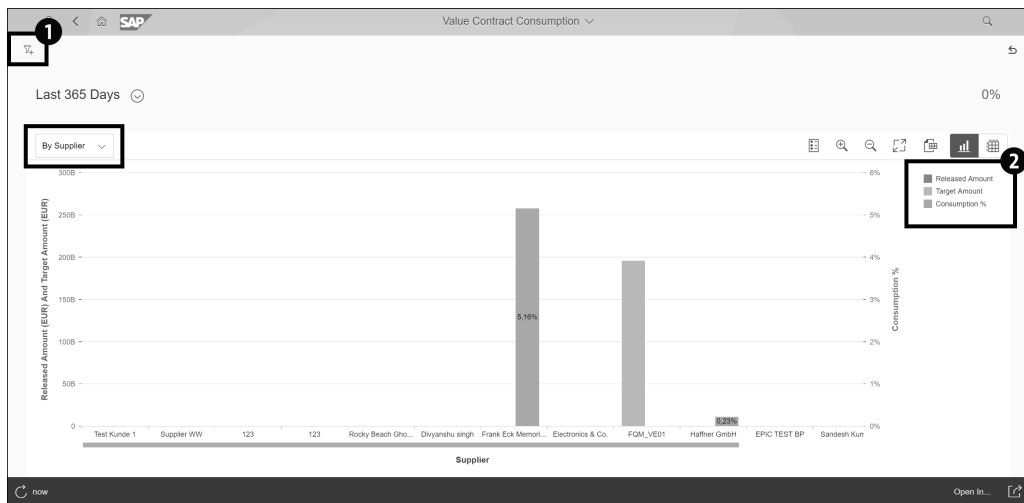

Figure 8.11 Value Contract Consumption
Login to the SAP Fiori launchpad and navigate to the Value Contract Consumption SAP Fiori app, then click the tile to execute the app. This SAP Fiori app analyses the value contracts in the system and displays target and released amounts and the consumption percentage over the last 365 days. It's possible to display the KPIs by supplier, purchasing group, purchasing organization, document, and trend, as shown in Figure 8.11. The output can be filtered by **Purchase Contract**, **Document Type**, **Supplier**, **Calendar Week/Month/Quarter/Year**, **Purchasing Group/Organization**, **Supplier**, **Currency**, **Company Code**, and **Created By**, as shown in Figure 8.11 ❶.